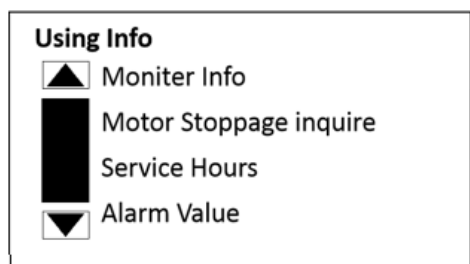

Figure 3
- 2) Press  to enter the **Using Information** page (figure 3),
- On the **Using Information** page (figure 3), press   to select monitor information query items, press  to enter the **Monitor Information** page (figure 4), and press  to go back to the previous menu
- On the **Using Information** page (figure 3), press   to select **Motor Stoppage inquire** query items, press  to enter the **Motor Stoppage inquire** page (figure 5), and press  to go back to the previous menu.
- On the **Using Information** page (figure 3), press   to select **service hours** query items, press  to enter the **service hours** page (figure 6), and press  to go back to the previous menu.
- On the **Using Information** page (figure 3), press   to select **alarm value** query items, press  to enter the **alarm value** page (figure 7), and press  to go back to the previous menu.
- On the **Main Menu** page (figure 2), press   to select the **user settings** query items, press  to enter the **user settings** page password: 11111111 (figure 3), and press  to go back to the previous menu